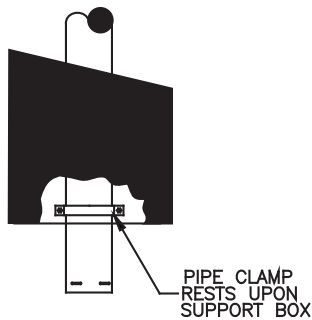

Figure 33
8. Place the Support Clamp, included with Support Box, loosely around Pipe Sections running through hole in Support Box (Figure 33).
10. After all PelletVent Pro Pipe Sections and components are assembled and connected down to the appliance seal and secure the Appliance Adapter to stove. Using a level, make slight adjustments in the position of the appliance until the pipe is truly vertical. Tighten the bolts in the Support Clamp (Figure 33).